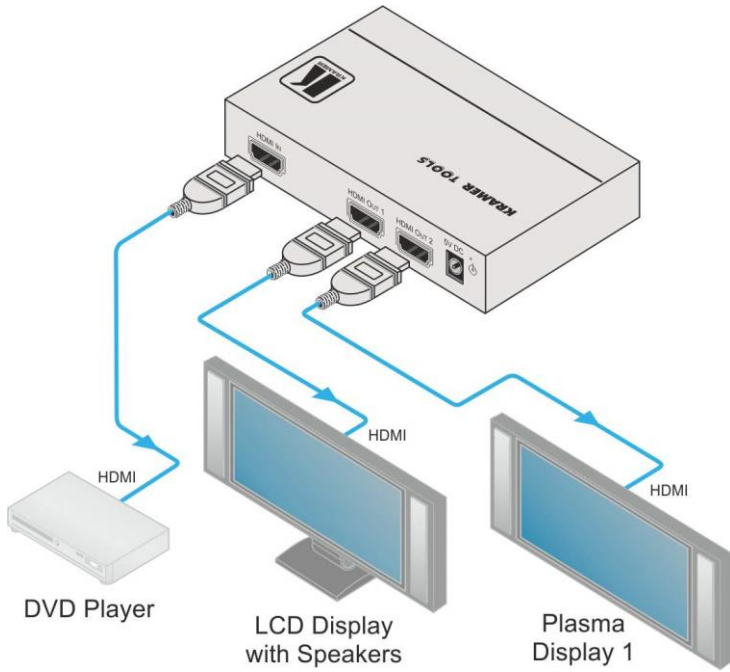

Figure 2: Connecting the VM-2UHD 1:2 HDMI DA
Connect the **VM-2UHD** as illustrated in the example in Figure 2:
3. Connect the 5V DC power adapter to the power socket unit and then connect the adapter to the mains electricity (not shown in Figure 2).